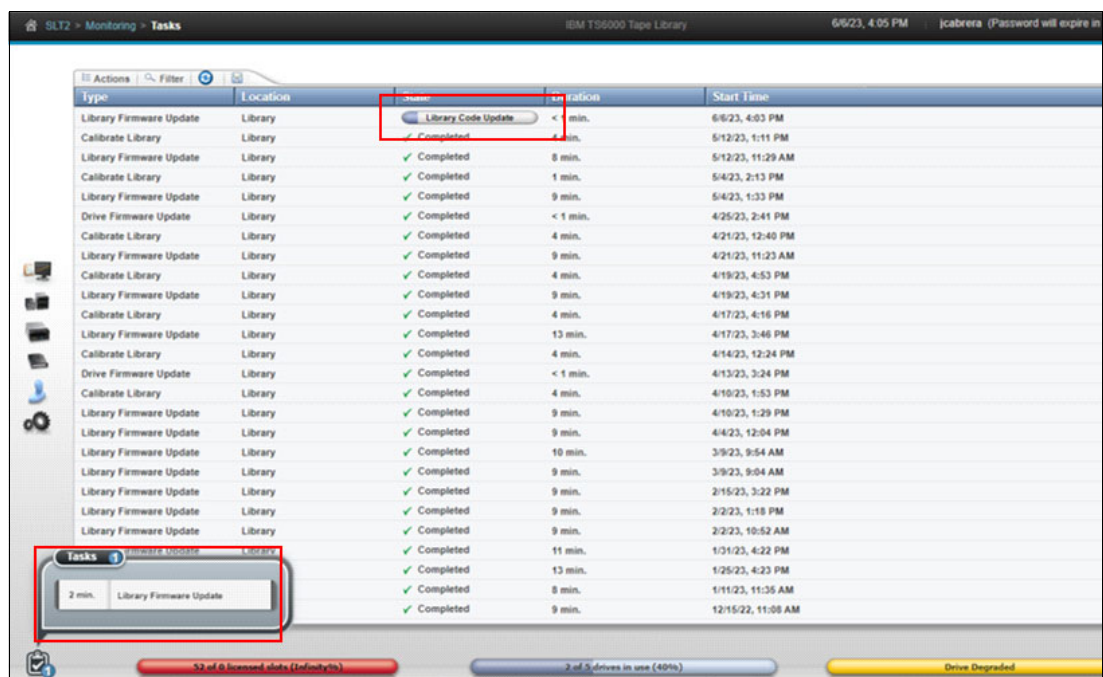

Figure 5-20 Firmware update status
- The firmware downloads to the IBM Diamondback Tape Library. This download can take a few minutes. When finished, the update starts and the Tasks pod, which is at the lower-left corner of the System page, indicates that the firmware update task is in progress. Monitor the status of the update from the Tasks page by selecting **Monitoring Tasks**, as shown in Figure 5-20.